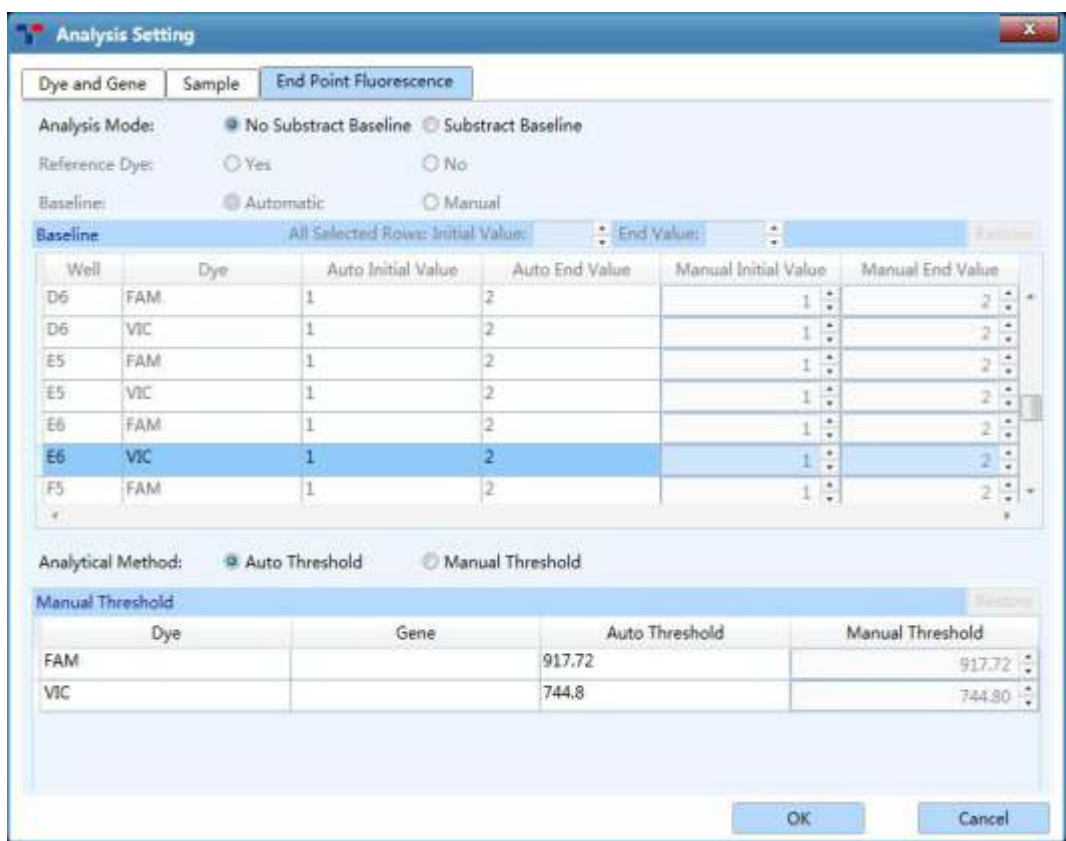

Figure D-19. End Point Fluorescence Analysis Setting interface - End Point Fluorescence tab
- **End Point Fluorescence** tab: as shown in figure D-19.